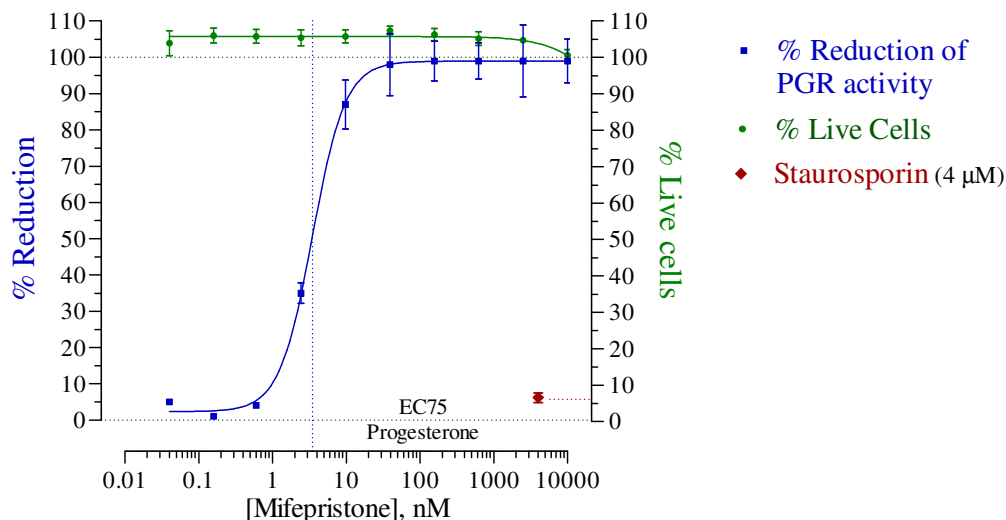

Figure 3. Validation of PGR Assay antagonist dose-response.
- *Optional:* reference antagonist (refer to Fig. 3)